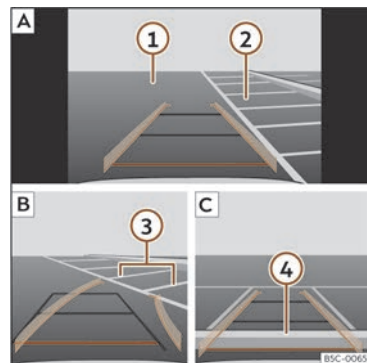

Fig. 121 Display on the Infotainment system screen.: parking with reverse assist.
Key to the **Fig. 121**:
- Place the vehicle in front of the parking space >>> **Fig. 121** ② **A**.
- Reverse while turning the steering wheel so that the yellow lines enter the parking space. The green and yellow lines must match the side boundary lines ③ **B**.
- Stop the vehicle when the red line has reached the rear boundary ④ **C**.